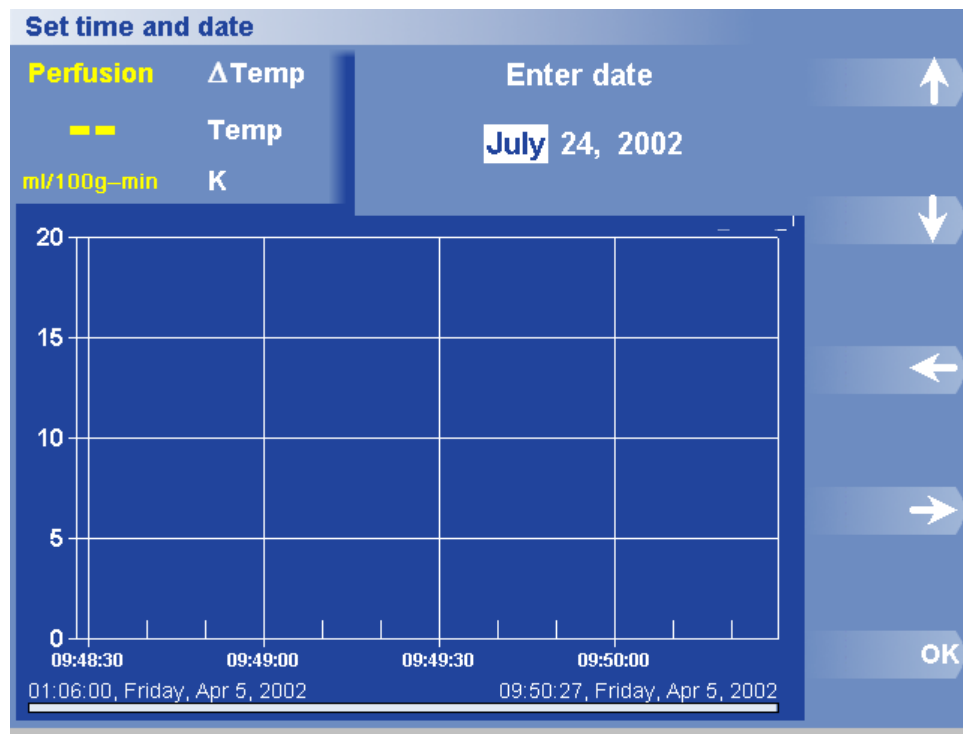

Figure 43. Set Date Dialog Box and Menu
3. Press Set Date. The Enter Date dialog box appears (Figure 43).